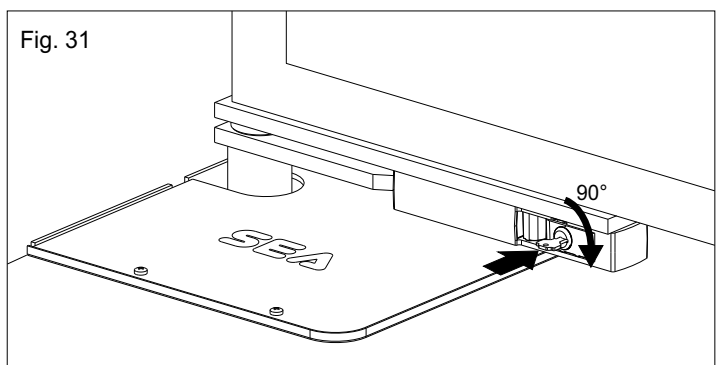

Fig. 31
- Insert the enclosed key into the keyhole and turn it about 90° in clockwise direction (Fig. 31).